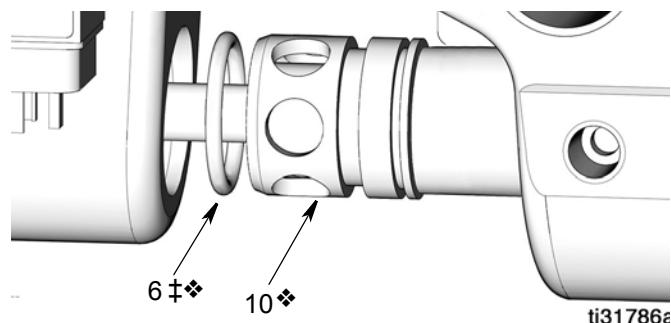

FIG. 23
16. Push seal retainer (9❖) into pump base (2).
17. Partially install pump cylinder (11❖) in pump base (2).
18. Lubricate o-ring (6❖) and install it around the shovel seal retainer (10❖) (FIG. 23).